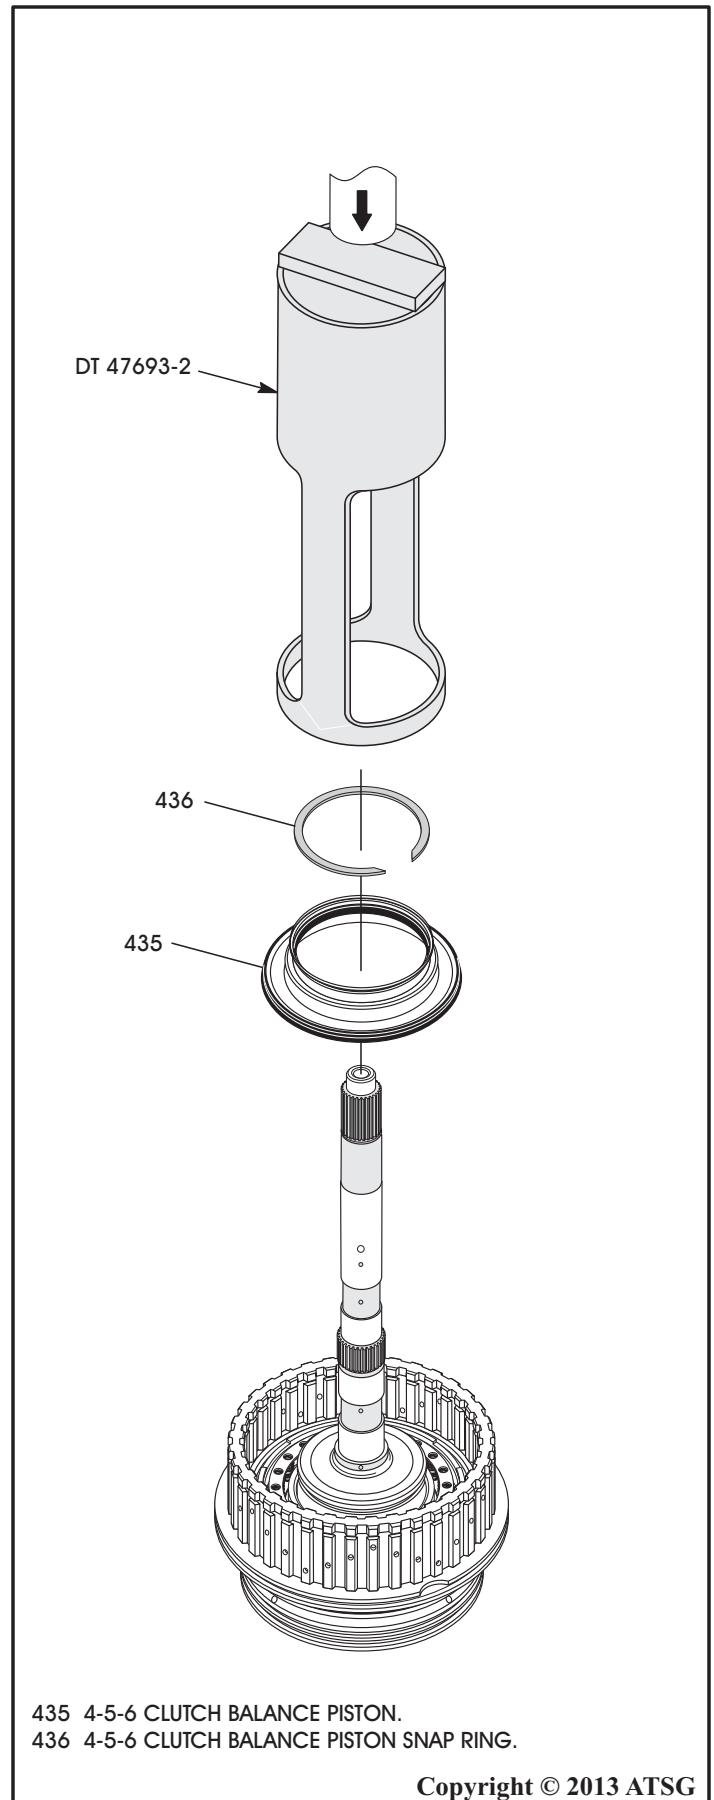

Figure 146
20. Compress the 4-5-6 clutch piston return spring using compressor tool DT-47693-2, as shown in Figure 146, and remove the snap ring.
21. Remove 4-5-6 clutch balance piston, as shown in Figure 146.